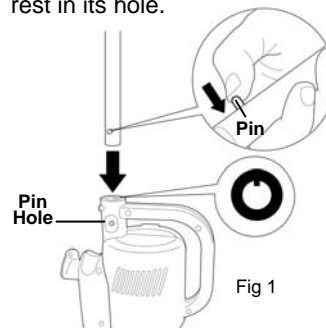

Fig 1
- Insert the metal handle into the hole next to the handle. Make sure that the slot in the handle fits correctly into the opening. (Fig 1)